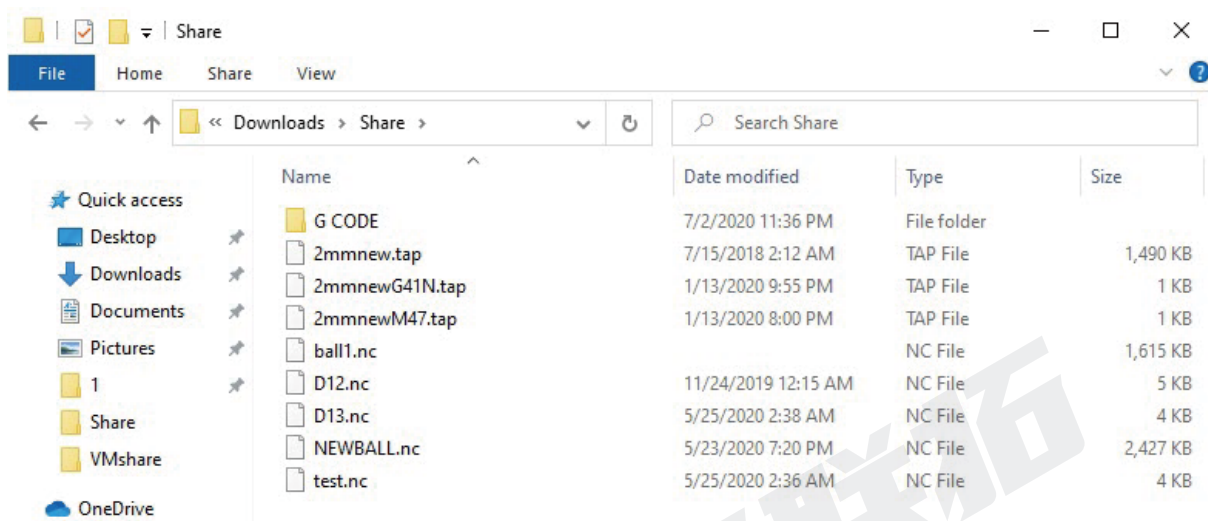

Figure 8-44 The files in the Share folder
- 1) Copy the files you need into the folder “share” on the computer as Figure 8-44;